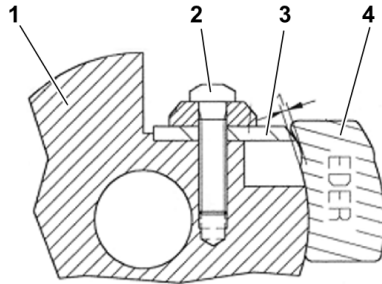

Fig. 19: Replacing knives on the carving cutter
- > Loosen the knife screw (2 - Fig. 19) slightly.
- > Place the knife gauge (4 - Fig. 19) on the milling head (1 - Fig. 19) and slide the knife (3 - Fig. 19) against the gauge until it touches the notched area.